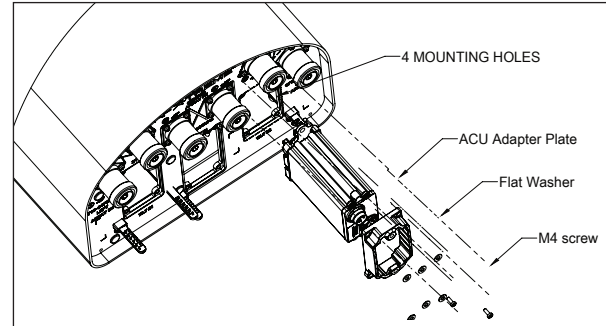

Figure 3 Typical multi-band installation
2. Remove the 4 mounting screws from the cover plate ACU slot as shown in **figures 3 and 4**. Remove the cover plate so that the slot for the ACU is open.
5. Position the ACU Adapter Plate onto the antenna bottom plate and attach it with 4 screws and washers as shown in **figures 3 and 4**. Tighten the screws incrementally to ensure that the ACU is not misaligned.